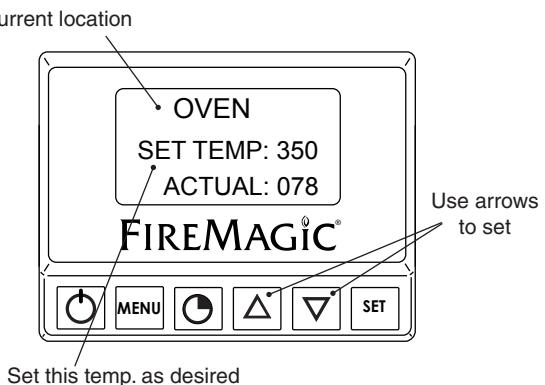

Fig. 19-1 Area temp. screen (oven shown)
- The selected location's temperature screen will be displayed. Use the arrows to set the desired temp. The actual temp. will also be shown (see Fig. 19-1).